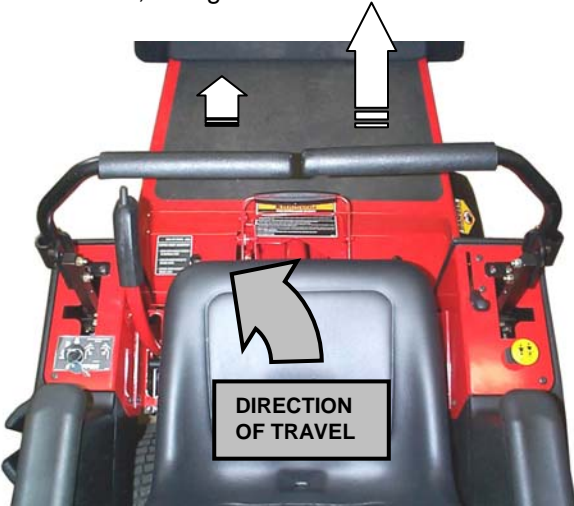

FIGURE 2.6
1. **To turn left**, slowly ease back on the left lever while keeping or increasing pressure on the right lever. See Figure 2.6. The more you ease off on the left lever and/or push on the right lever, the tighter the turn.